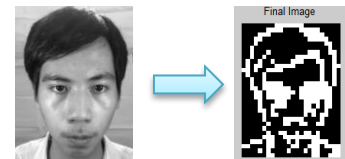

Fig.4. Feature extraction for facial image
Firstly, the students facial image is captured and converted into grey scale. After that, 2-D wavelet transform will be applied to the image for feature extraction. Meanwhile, the resolution of the image is resized from 240x190pixels to 30x24pixels as shows in Fig.4. Finally, Neural Network (NN) is then used as a classifier and is trained based on the extracted features.